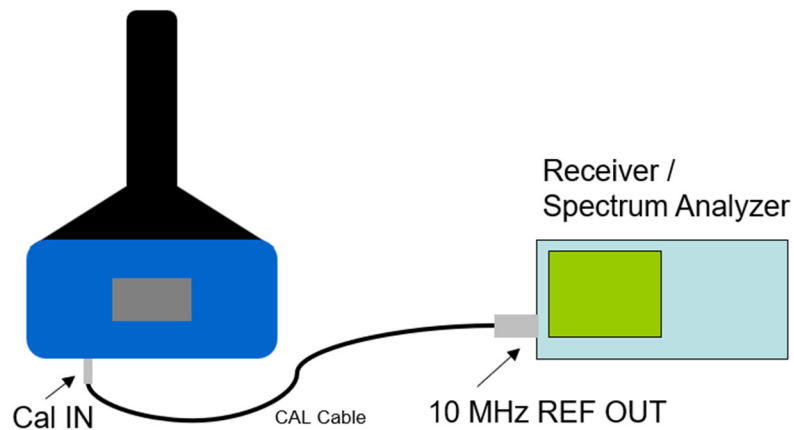

Figure 15: Schematic of the RefRad 18 customer calibration setup
- Connect the included CAL cable, see **Figure 15**